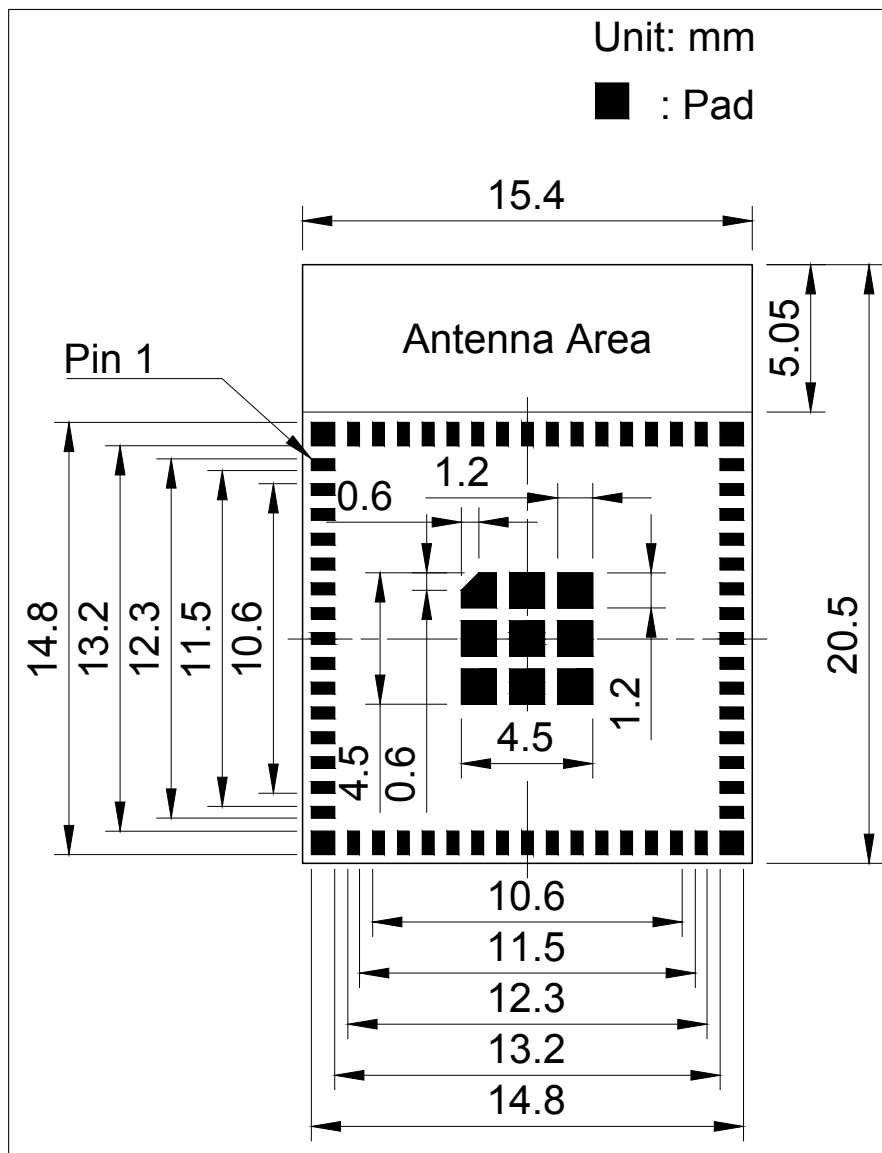
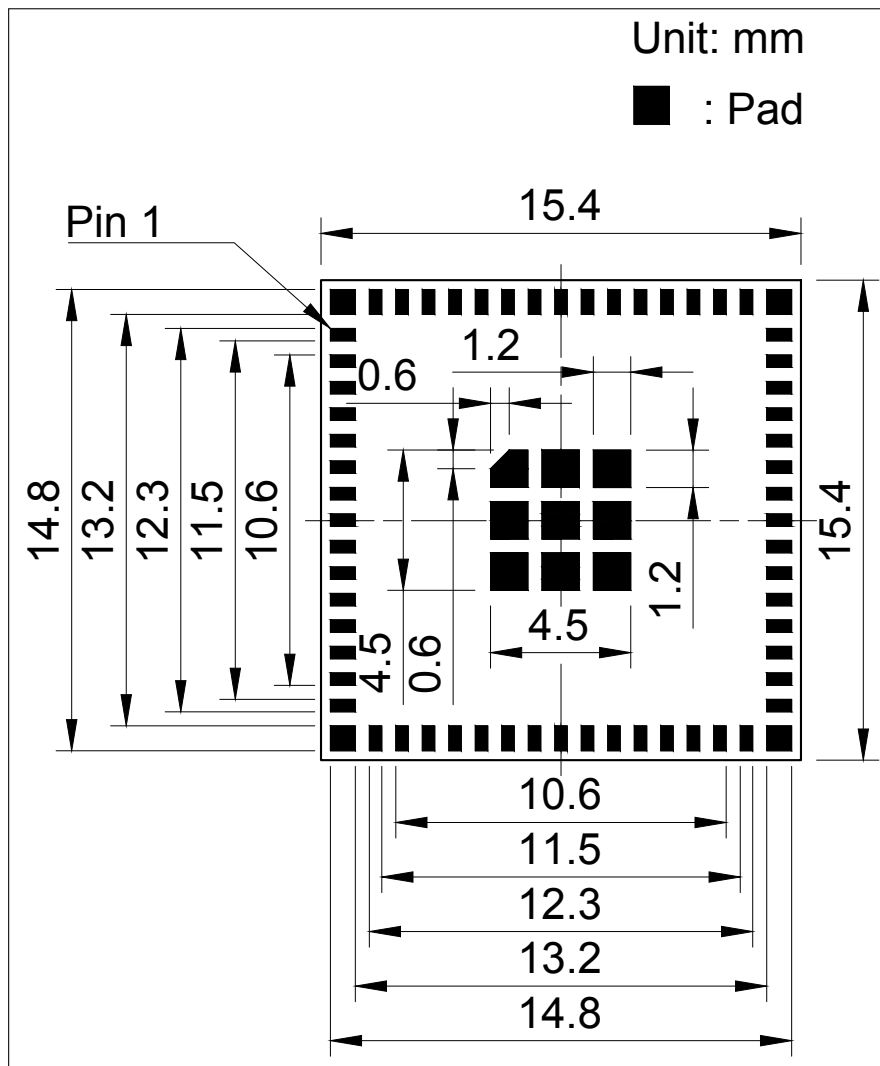

Figure 10-1. ESP32-S2-MINI-2 Recommended PCB Land Pattern
Figure 10-2. ESP32-S2-MINI-2U Recommended PCB Land Pattern
- Figures for recommended PCB land patterns with all the dimensions needed for PCB design. See Figure 10-1 *ESP32-S2-MINI-2 Recommended PCB Land Pattern* and Figure 10-2 *ESP32-S2-MINI-2U Recommended PCB Land Pattern*.
- Source files of recommended PCB land patterns to measure dimensions not covered in Figure 10-1 and Figure 10-2. You can view the source files for ESP32-S2-MINI-2 and ESP32-S2-MINI-2U with Autodesk Viewer.